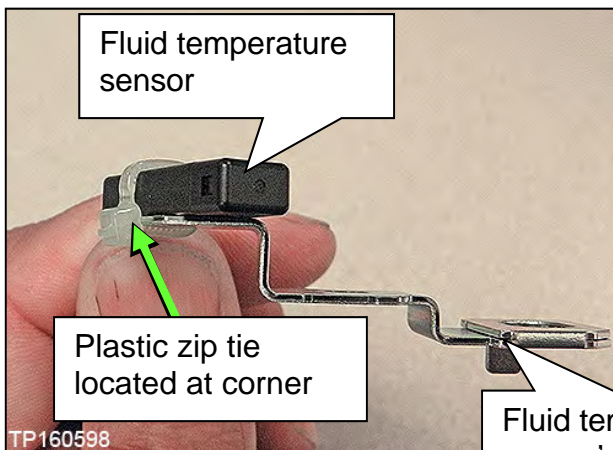
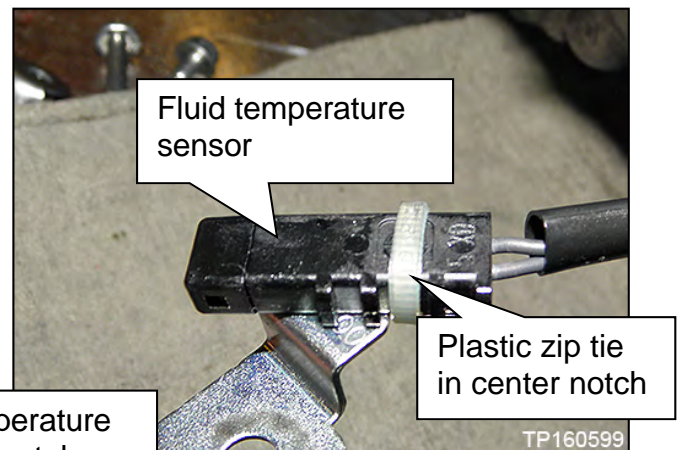

Figure 180
Figure 181
- a. Cut the old plastic zip tie with an appropriate tool to remove the fluid temperature sensor's metal bracket from the terminal harness assembly (Figure 180 and Figure 181).
- Locate the plastic zip tie at the center notch of three notches on the fluid temperature sensor (Figure 181).
- Tighten the plastic zip tie so that it is oriented as shown in Figure 181.